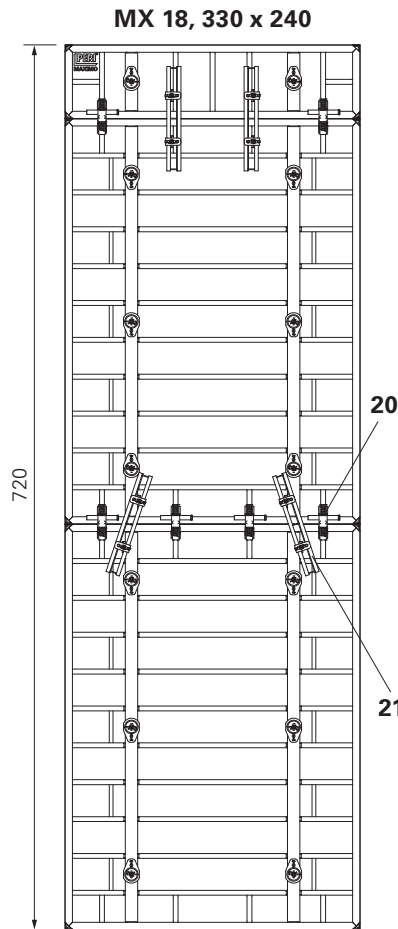

Fig. C8.03a
For extension units H > 6.00 m and H ≤ 7.20 m, Alignment Couplers BFD (20) and Compensation Walers MAR 85 (21) are to be used on panel joints. (Fig. C8.03a + C8.03b)